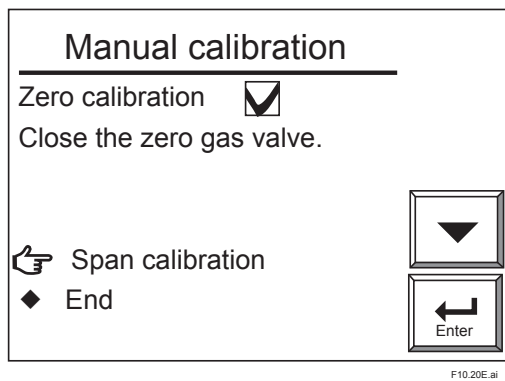

Figure 10.20 Zero-point Calibration Complete (in Manual Calibration)
- (2) Adjust the flow rate and select "Valve opened" from the Manual calibration display. Check the Trend graph display to see that the measured value is stabilized. Then press the [Enter] key. The Manual calibration display shown in Figure 10.20 appears.